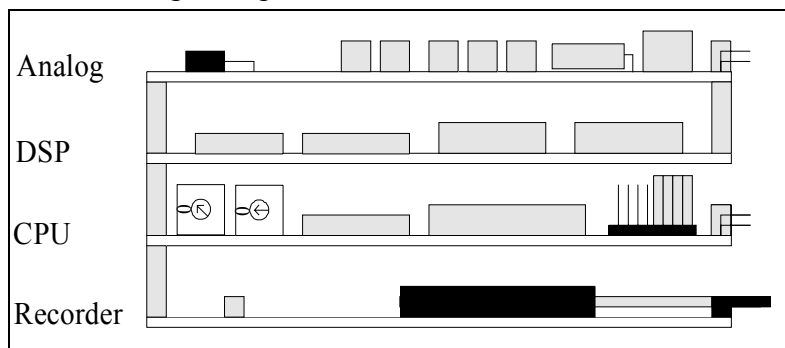

Figure 8 - ADVField Processing Module
Figure 8 shows the general layout of the ADVField processing module. The processing module consists of three printed circuit (PC) boards with an optional fourth board for internal recording. The boards are connected in a vertical stack using multiple conductor connectors at one or both ends of the boards. The top-down board order is: Analog, DSP, CPU, and Recorder. Each board is labeled in white letters. The board dimensions are 10.1 x 15.2 cm (4 x 6 in) and are separated vertically by 1.3 cm (0.5 in). A general description of the function and layout of each board follows.